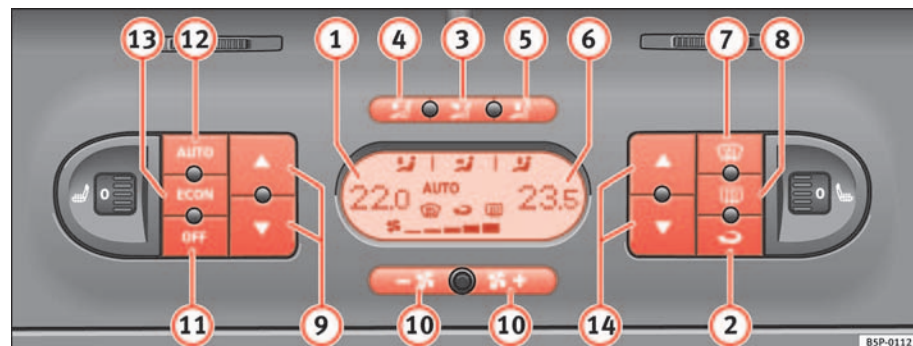

Fig. 127 On the dash panel: 2C Climatronic controls
- To enter manual mode, press one of the buttons ⇒ fig. 127 (3) to
(5), **(ECON)** or press the airflow control (10). The symbol **(AUTO)** will disappear from the display. ►
- Press the button  ⇒ page 156, fig. 127 ② to switch air recirculation mode on or off. It is switched on if the following symbol appears in the display .